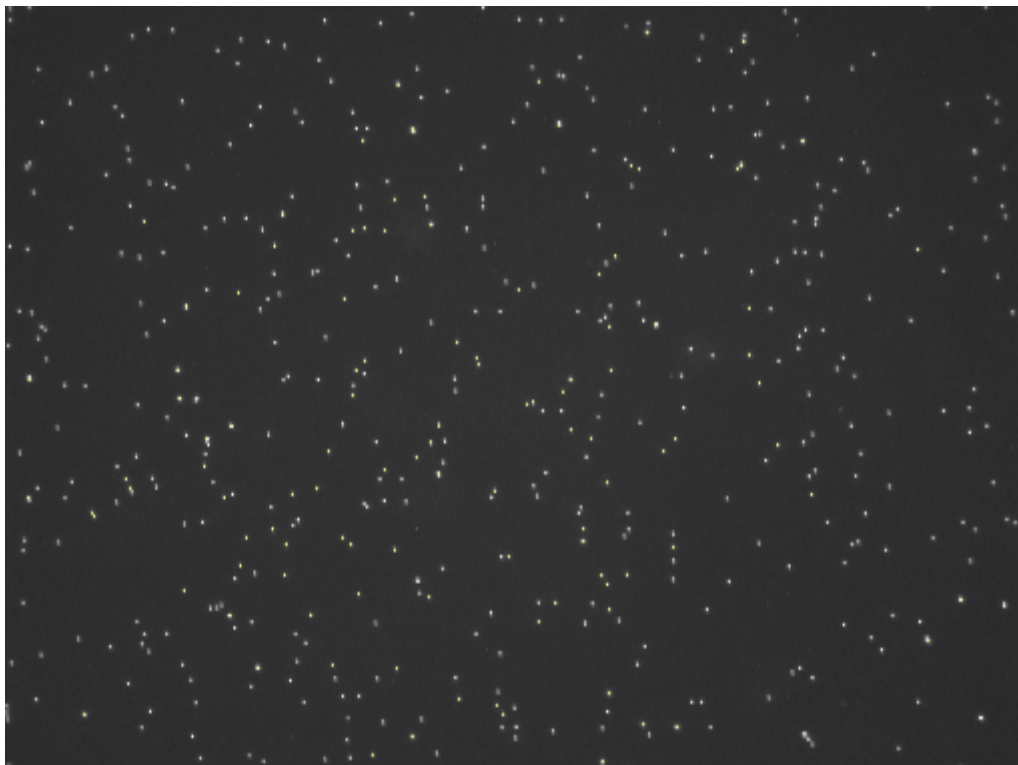

Figure 22 Resized image created using the “Save image” button.
6. Click OK, and the image will look as shown in figure 22.